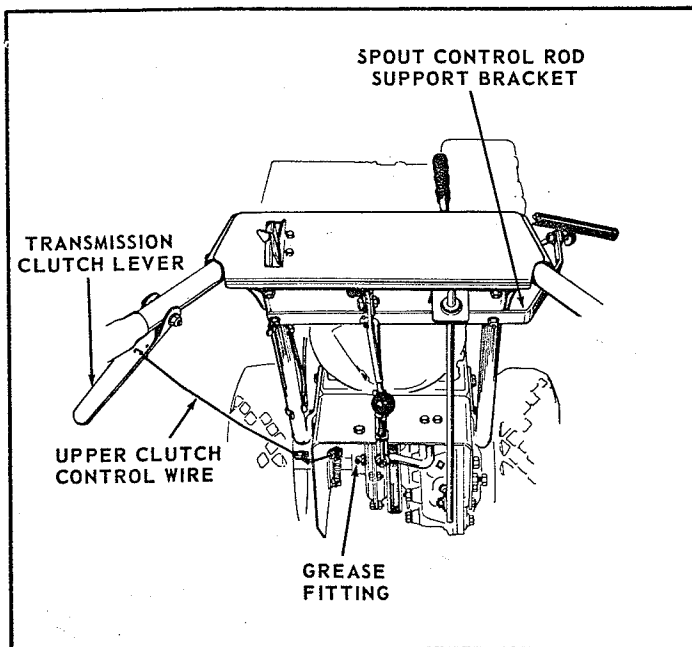

FIGURE 4
6. At this time tighten all nuts and bolts which were previously left loose. Handles should be held in raised position when tightening the (4) bolts holding handles.
7. Mount the clutch auger handle to the handle cover using the 5/16" x 3/4" capscrews, 1/4" flat washer, and (two) nylon washers. Secure with 5/16" locknut. Tighten so that when clutch auger handle is pulled up the nylon washers will hold it in this position, but not to the point where it is unable to pivot. See Fig. 4.